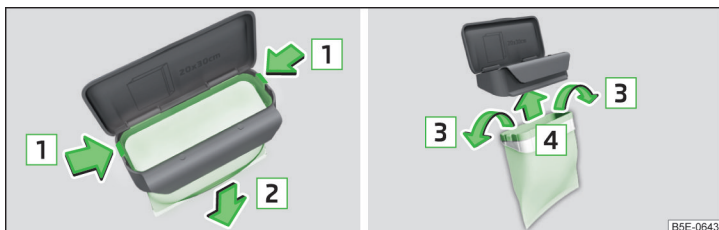

Fig. 83 Replacing bags
- Press the two locking lugs on the frame in the direction of arrow **1** » Fig. 83.